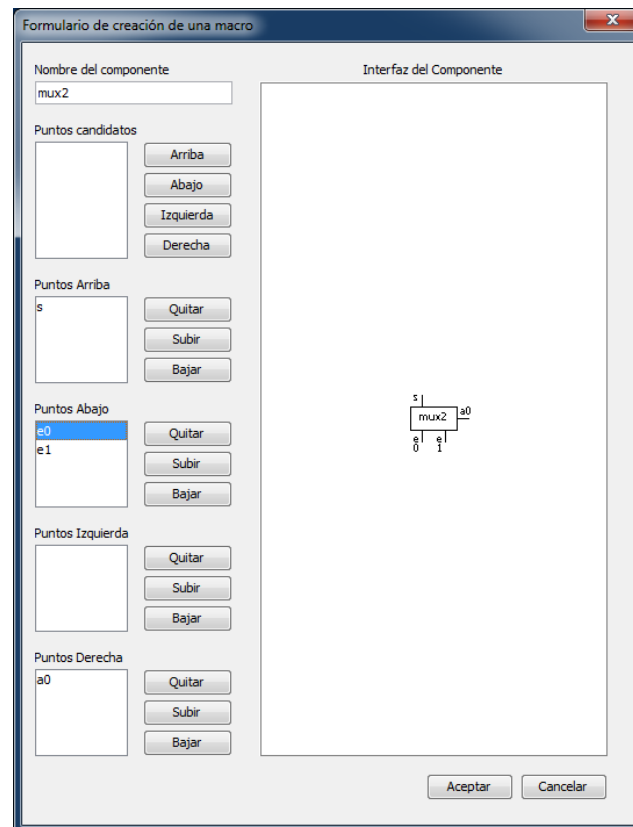

Figure 1.5: Creating the macro mux2
- ❑ In the dialog box you can see several lists. The first one contains the candidate points to be inputs or outputs before a position in the sketch of the new component is assigned. The following lists contain the connection points which will appear at the top, at the bottom, on the left, and on the right of the interface of the new component. Using the buttons located to the right of the first list, create the macro with the appearance of figure 1.5. Notice that `e0` must be on the left of `e1`.